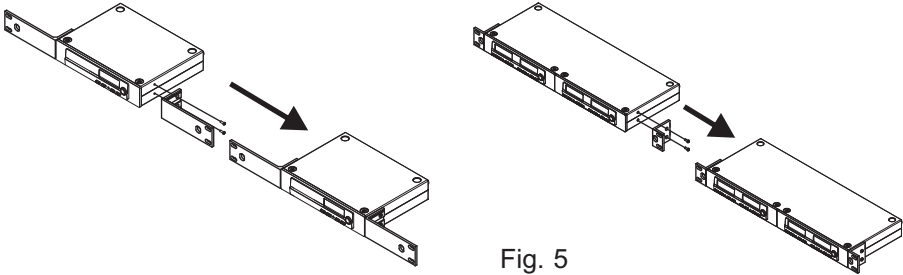

Fig. 5
1. Single half-rack receiver or Single 1-rack receiver : Install the optional rack mount kit and fasten with screws on both sides, Fig. 5.